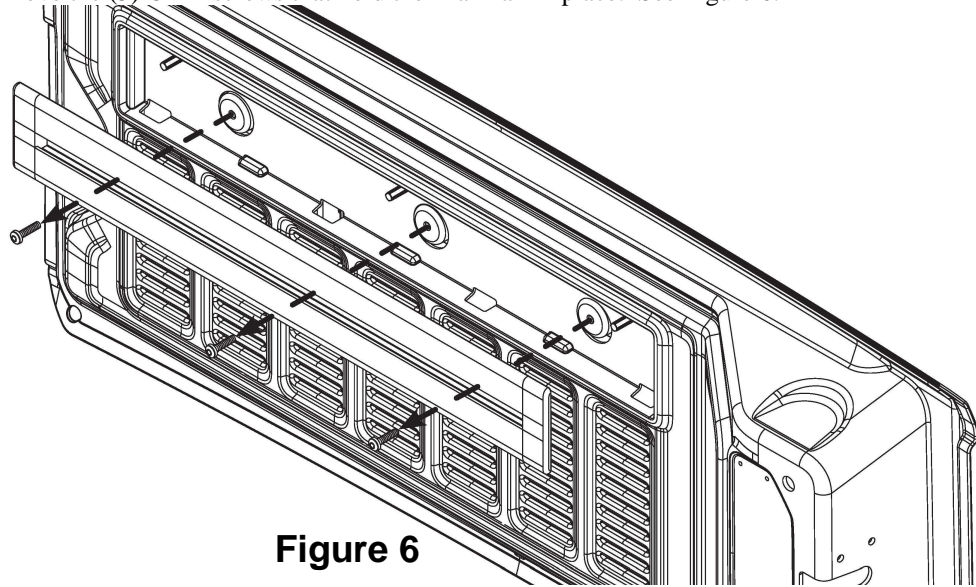

Figure 6
9. Open the tailgate and remove the (3) OEM screws that hold the TrailRail in place. See Figure 6.